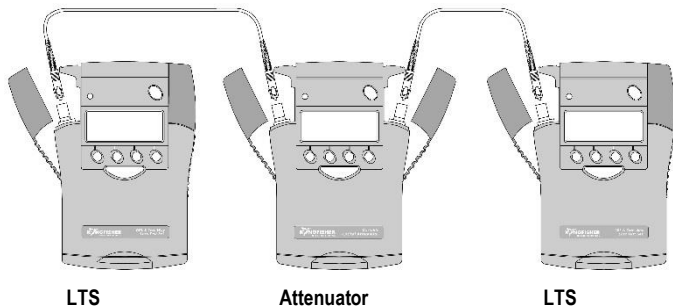

Figure 10. Test set up for Two Way Range and Linearity Test
1. Connect the equipment as shown in Figure 10.